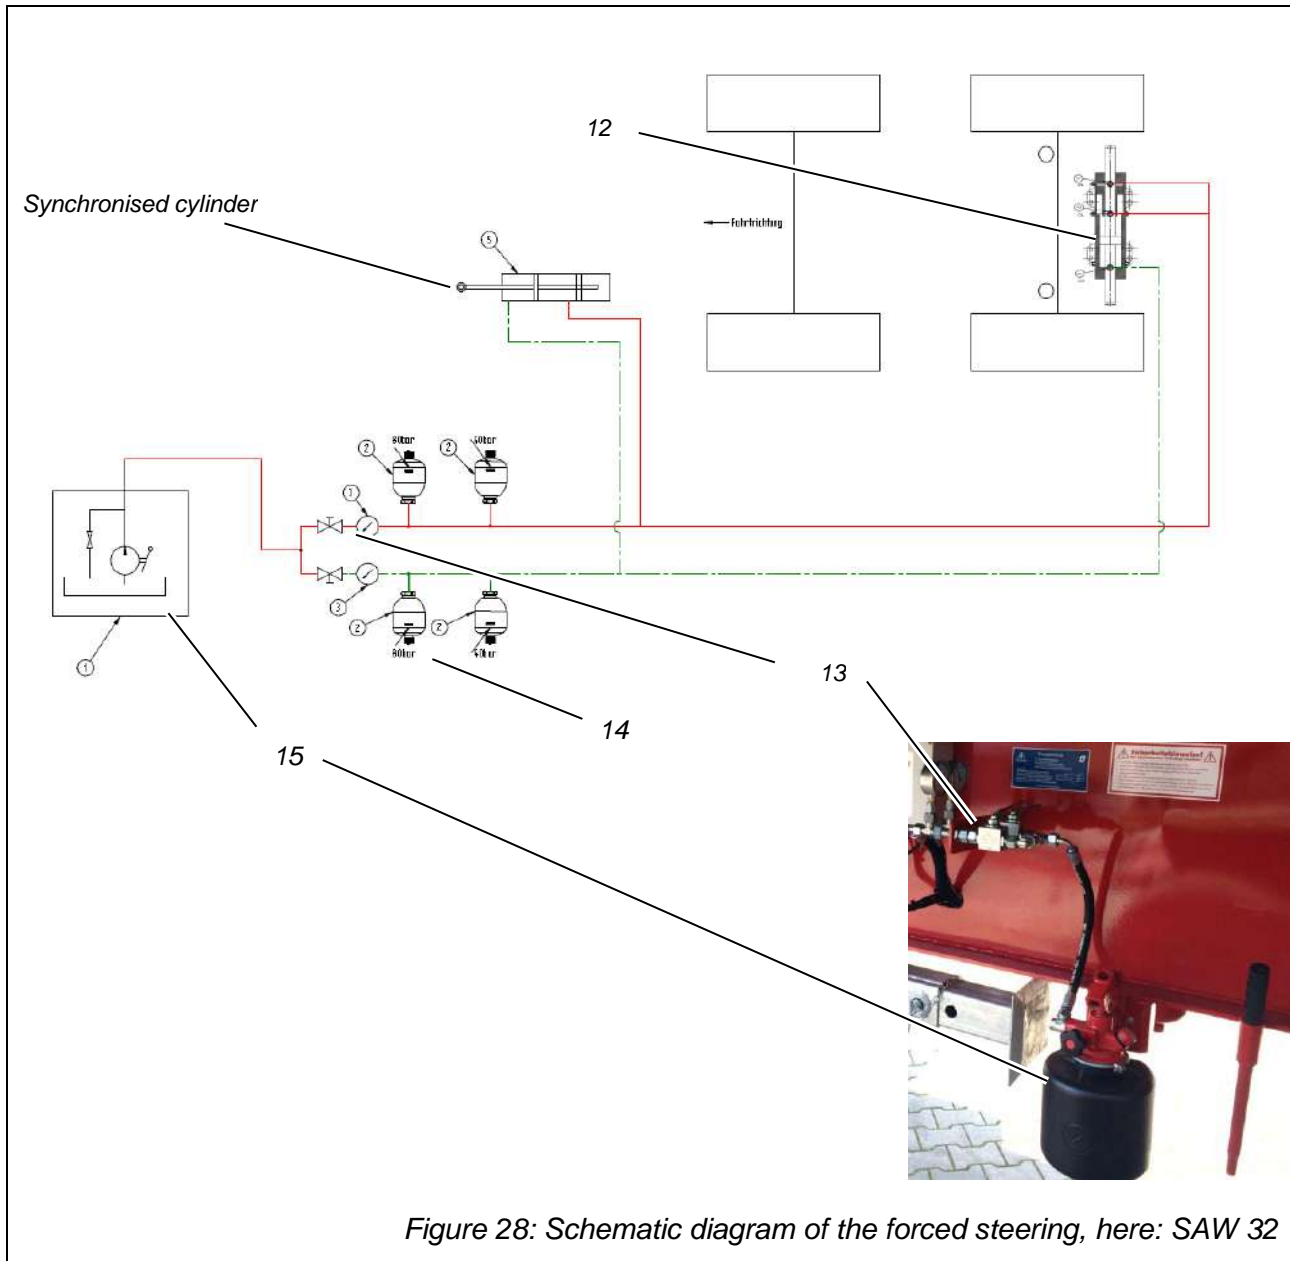

Figure 28: Schematic diagram of the forced steering, here: SAW 32
- ⇒ To do this, open all stopcocks (13).
- ⇒ The red line and green line in Figure 28 are now connected.
- ⇒ Close the stopcocks (13).